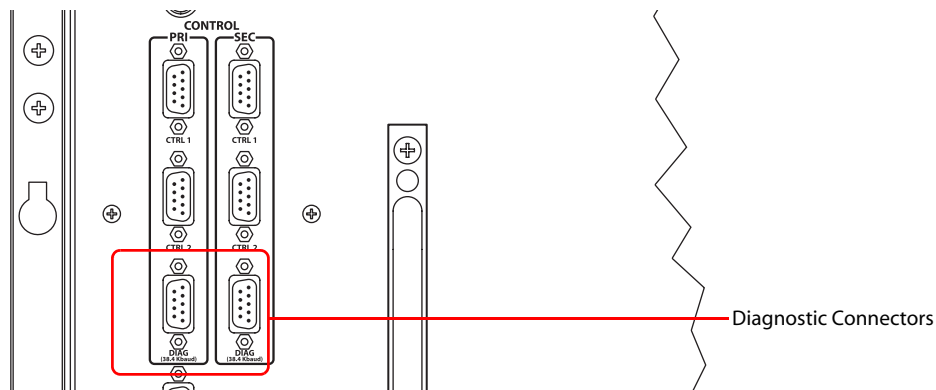

Figure 2-18. Diagnostic Connections (Rear View)
- 1 Locate the diagnostic connections on the rear of the router, as shown in Figure 2-18. The diagnostic connections are labeled 'DIAG'.